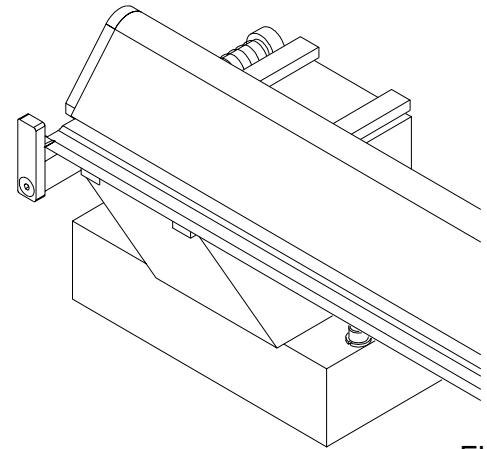

FIG. 23
3. Position the bedknife so the unworn tips on a used bedknives or the ends of a new bedknife are on the gage tips. See FIG. 23 Pull the bedknife forward firmly against the gage tip and then turn on the electromagnets. See FIG. 24. The red light will come "on" on the control panel. Turn and park both alignment gage tips.